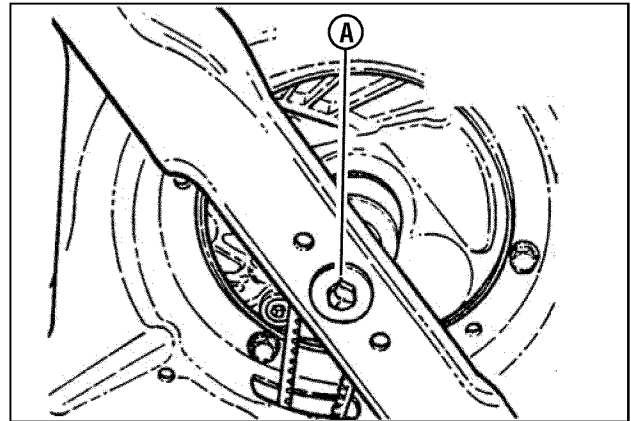

Figure 14: Tightening the blade cap screw
2. Tilt the mower up on its rear wheels for access to the blade cap screw (**A, Figure 14**). Do not tilt the mower with the spark plug or carburetor down.